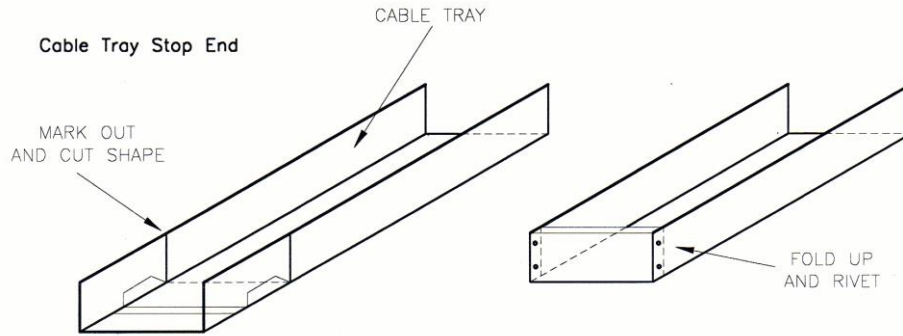

Figure 5 - A typical stop end in cable tray.
19. A stop end is a term used to describe where a cable tray terminates outside an enclosure. A typical stop end is shown in Figure 5. Notice that a top stiffening lip is used in addition to the riveted lips.